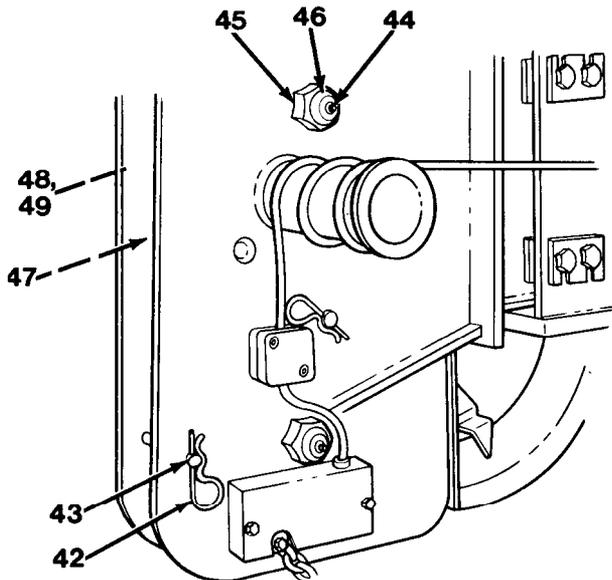
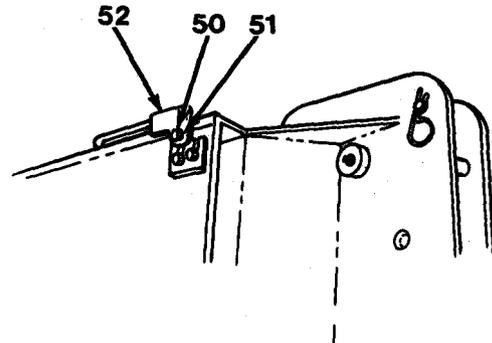

Figure 15-15
Figure 15-16
12. Remove six hair pin totters (42) and three cable retaining pins (43, Figure 15-15) from boom tip.
13. Remove four grease zerks (44), two lock nuts (45), boom pins (46), three sheaves (47), two spacer washers (48) and tube (49) from boom tip.
14. Remove two cotter pins (50), two plain washers (51) and bracket (52, Figure 15-16) from top of boom base section.
1. Install bracket (52), two washers (51) and cotter pins (50, Figure 15-16) on top of boom tip section.